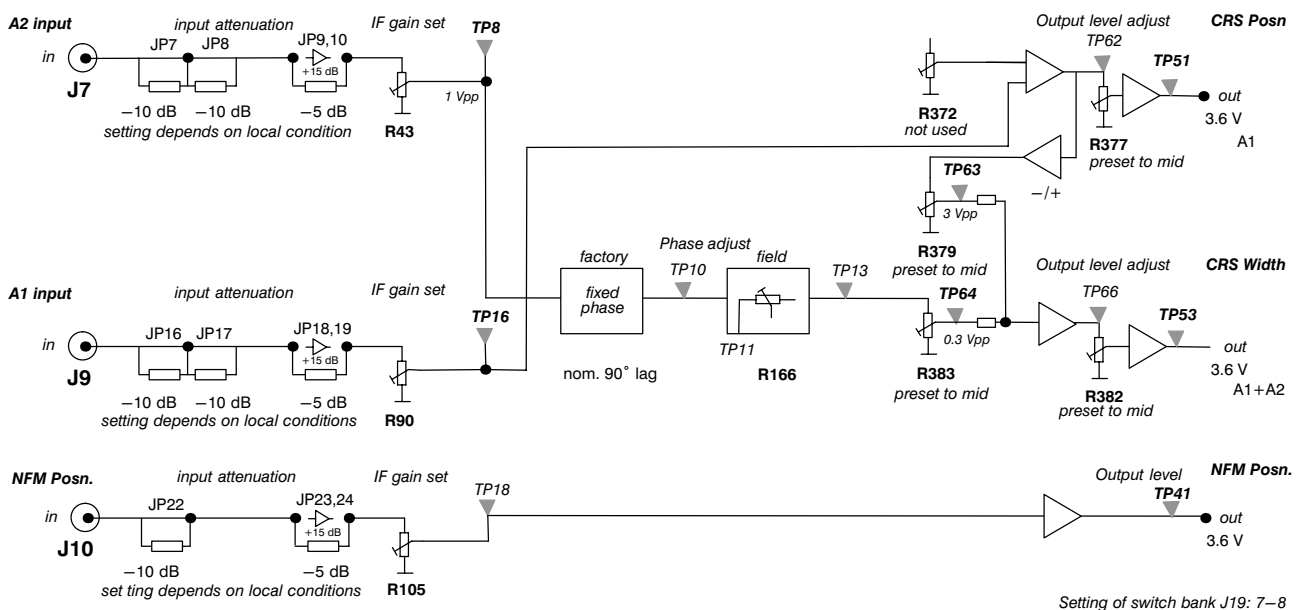

Fig. 4-3 Adjustment of detector channels for aerial monitoring (GP-1F 0-Reference)
- Check relative A1 - A2 phase with oscilloscope: measure between TP63 (A1) and TP64 (A2), see Fig. 4-3, 4-6, 4-7. Adjust with R166 to 180°.